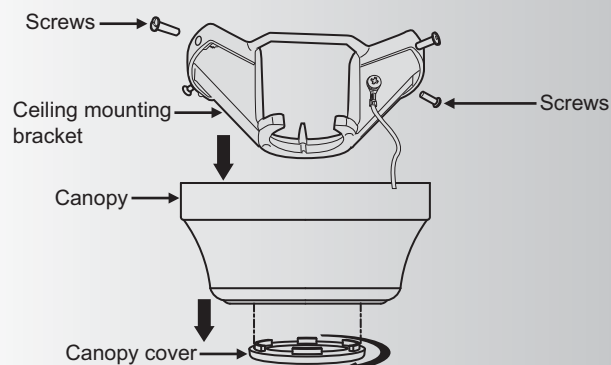

Fig. 5
Step 1. Remove the decorative canopy bottom cover from the canopy. (Fig. 5)
Step 2. Loosen the four screws on the top of the canopy. Remove the two non-slotted screws and loosen the slotted screws. This will enable you to remove the ceiling mounting bracket. (Fig. 5)
Step 3. Remove the ceiling mounting bracket from the canopy by loosening the two screws on the bottom of the ceiling mounting bracket. Turn the canopy counterclockwise and remove. (Fig. 5)